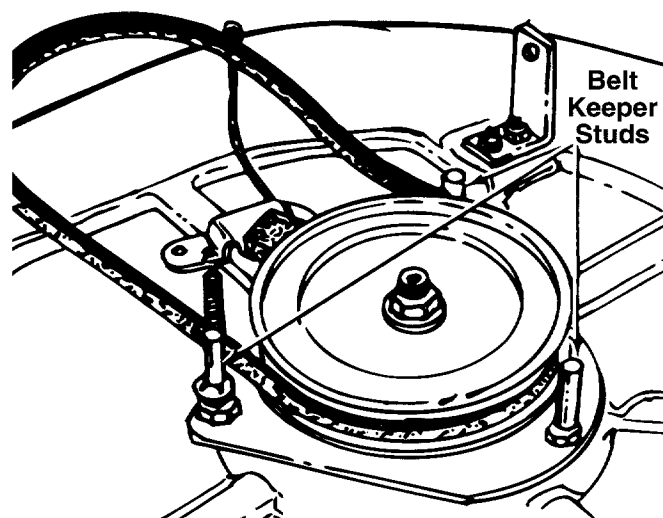

FIGURE 29.
2. Remove the three belt keeper studs on the deck. See figure 29.